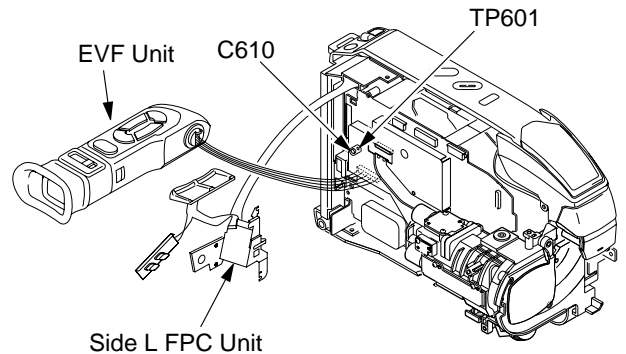

Fig.E5-1
- 1) Remove the Side Case (L) Unit. Refer to "Disassembly/Assembly Procedures of Cabinet", page 2-2. Connect the Side L FPC unit to the camcorder as shown in Fig.E5-1.